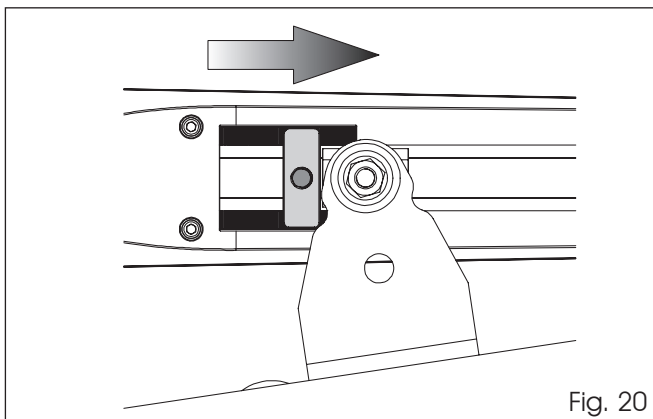

Fig. 20
4. Move the mechanical stop until it is close to the back side of the bracket, as indicated in Fig. 20.